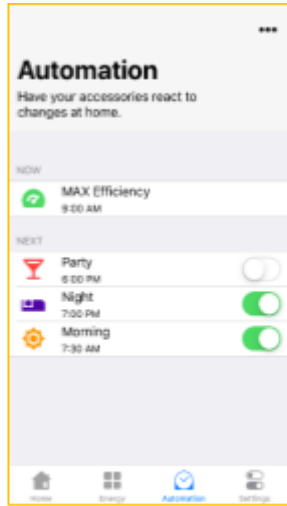

Figure 56
**10.13.3.** Deactivate software switch  (Fig. 56) to stop execution of the scenario.